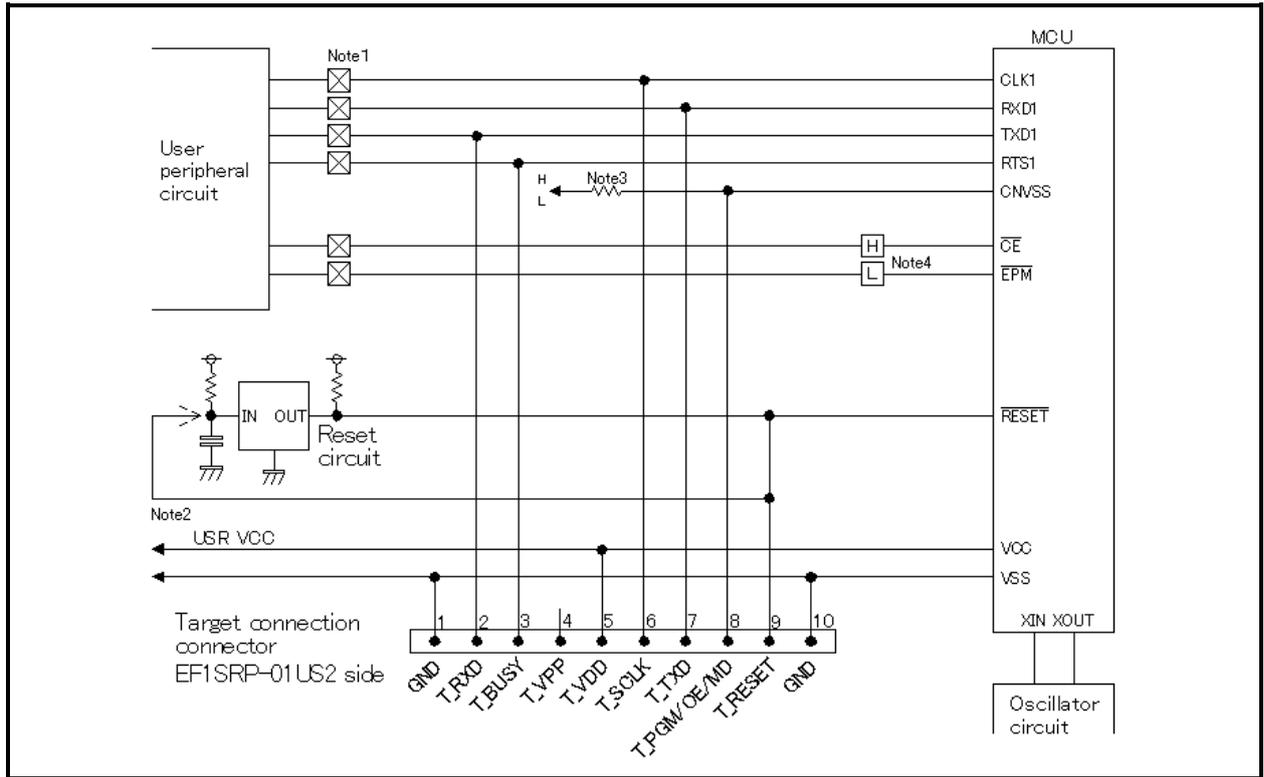

Fig.4.1: User Target Peripheral Circuit Example (recommended)
(1) A recommended sample of user target MCU peripheral circuit for M16C/62 is shown in Fig.4.1.